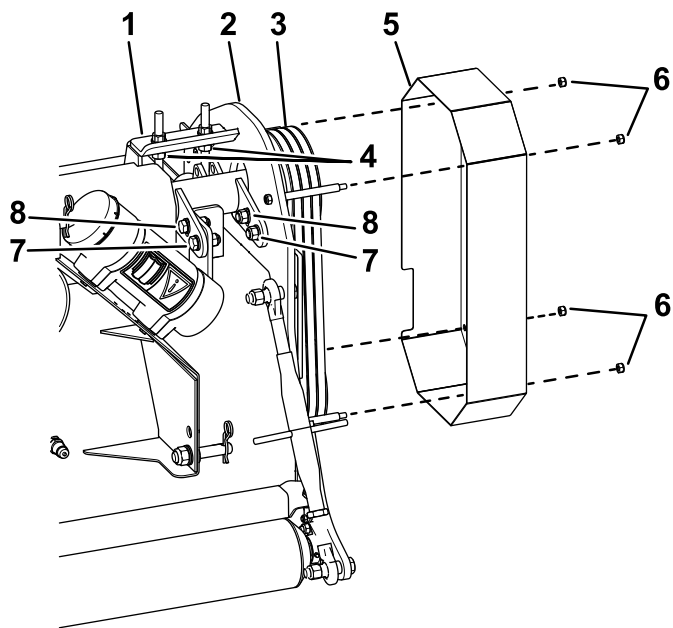

Figure 31
Note: If the tension is correct, install the belt cover (Figure 31).
3. If the tension is not correct, loosen the locknuts under the plate (Figure 31).
4. Loosen the bolts in the slots (Figure 31).
7. Tighten the lower locknuts under the plate (Figure 31).